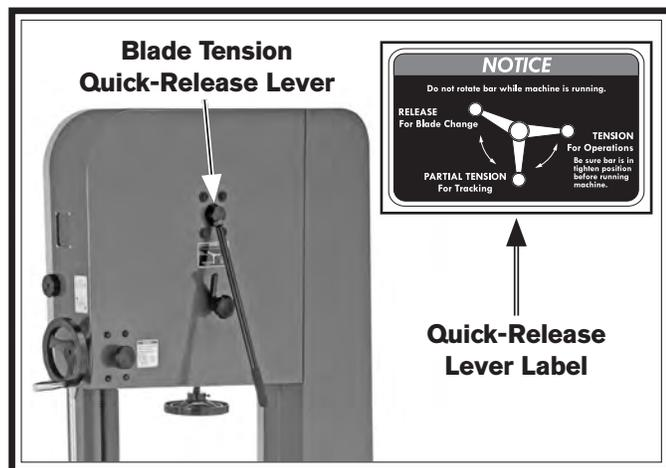

Figure 25. Blade tension quick-release lever rotated to PARTIAL TENSION setting.
3. Rotate blade tension quick-release lever to PARTIAL TENSION setting (see **Figure 25**).